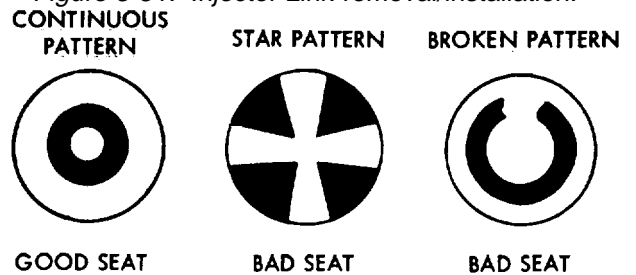

Figure 3-52. Plunger seat pattern.
(3) Enlarged or distorted spray holes, caused by cleaning with drills, wires, or other instruments.
(4) Plunger seat pattern covers less than 40 % continuous area around cup, cone or plunger bore (fig. 3-52).